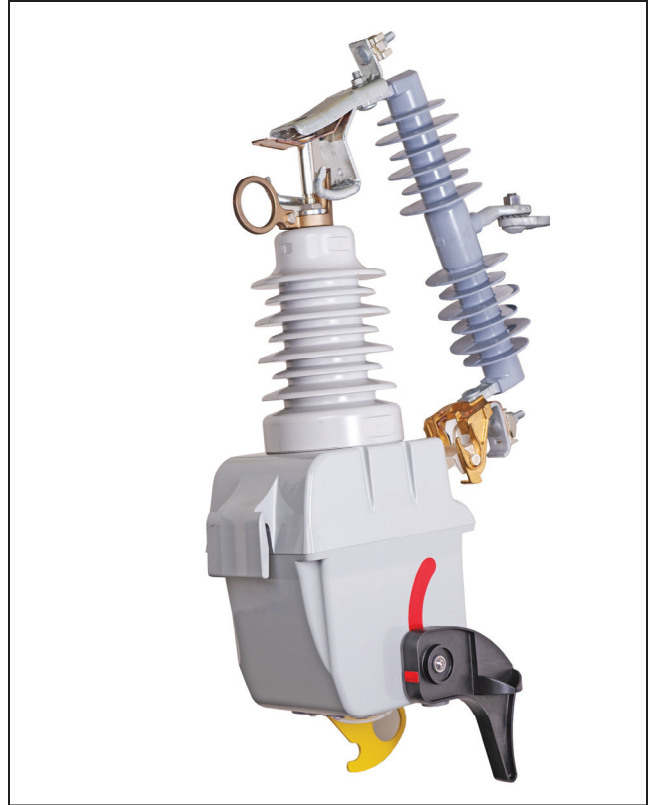

Figure 8. The MODE SELECTOR lever in the NR mode position.
- STEP 6.** Verify the MODE SELECTOR lever is in the proper position for the application, either in the **Auto** or **NR** mode. See Figure 8. See the “Setting the MODE SELECTOR Lever” section on page 16. Pull the OPEN/CLOSE lever down to close the VacuFuse interrupter and energize the transformer.